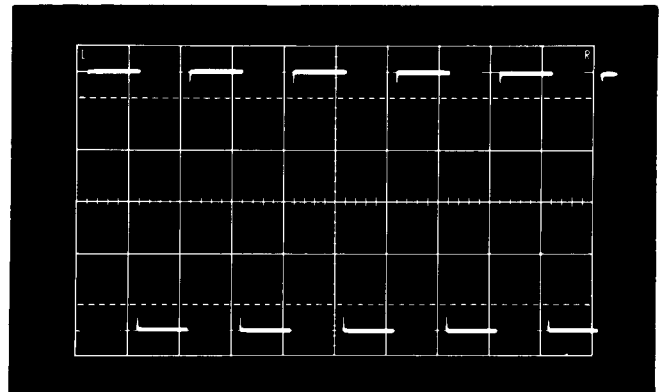

Fig. 6-2. Typical CRT display showing correct vertical gain at 10 mV/cm. Sweep rate: 0.5 ms/cm.
e. CHECK—CRT display for exactly 5 cm of vertical deflection (see Fig. 6-2).